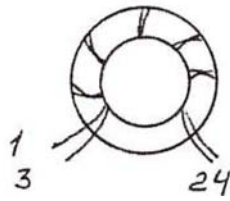

Figure 6 Design of the T1, T2
****T1, T2: Coiled by two twisted wires (1 turn to 1 centimeter) by wire in diameter 0.25- mm (30- AWG). Core – ferrite ring with OD 7... 20-millimeters (not critical), with permeability 100- 1000 (not critical). **Figure 6** shows the design of the transformer.